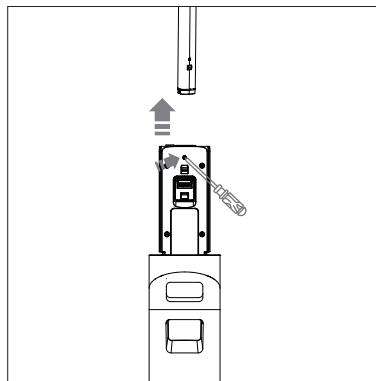

Fig. 29 – Removing the handle
- ▶ Use a suitable tool (e.g. a screwdriver) to press into the small opening below the handle and pull the handle upwards to remove it (**see Fig. 29**).